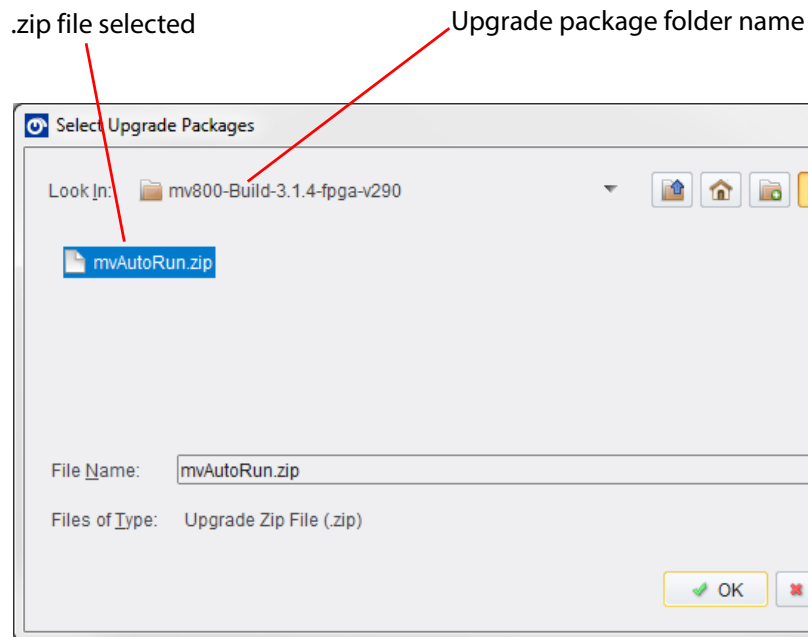

Fig. 10-6: Select Upgrade Package Window
- 5 Click **Import Licenses**. Navigate to the license zip file and **select** the license file name. Click **OK**. The license is imported into RollCall Control Panel and is added to the listed licenses. See Figure 10-6.
Click on the .zip file name (see Figure 10-6).